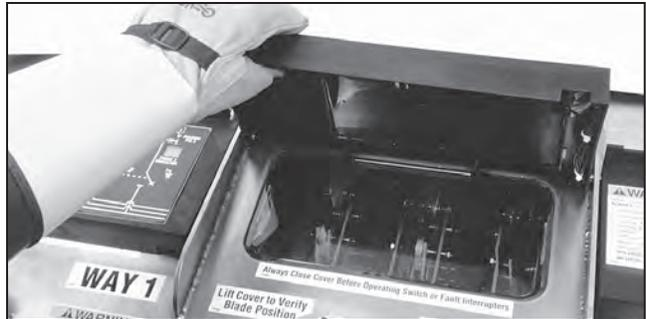

Figure 12. Window cover lifts for viewing of switch or fault-interrupter blade positions.
STEP 2. Open the viewing window cover and confirm the position of the load-interrupter switch or the three-pole fault interrupter by visually observing the position of the blades (see Figures 12 and 13 and the WARNING on page 13.).